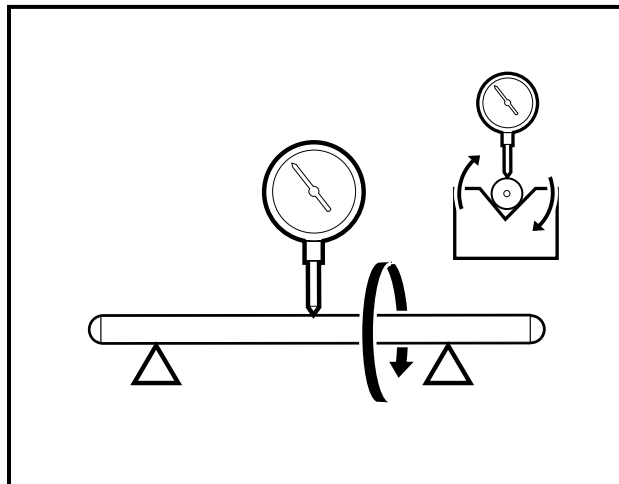

Figure 13-34 Measure Push Rod Bend
1. Support the rod in V-blocks at each end of rod. Position a dial gauge perpendicular to the rod (**Figure 13-34, Page 13-19**).